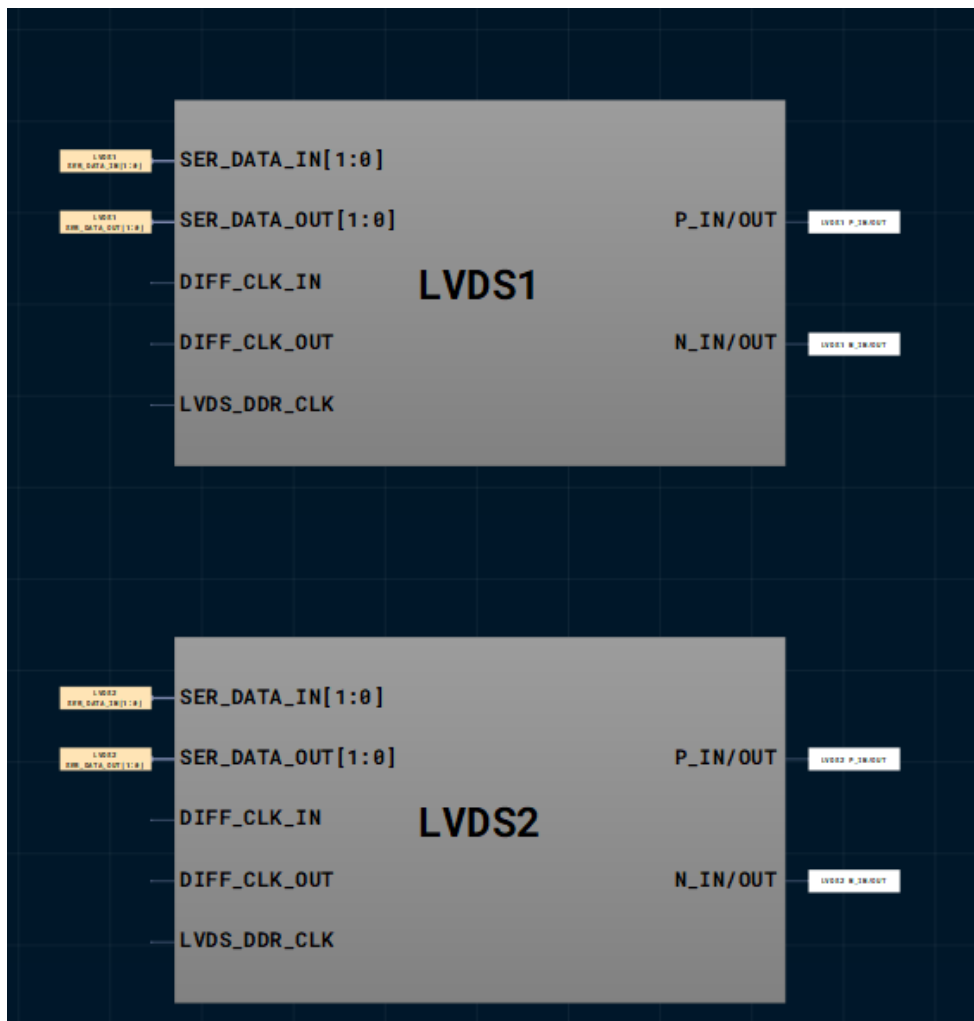

Figure 4. Floorplan for Setup A and Setup B
Figure 4 shows how LVDS Channel 1 and LVDS Channel 2 is being used in the Floorplan Tab of the software. The view can be zoomed in/out using the controls at the bottom or by pressing CTRL + Scroll on the mouse.
8. Now click on the Floorplan tab and see the CLB utilization (Figure 4). Press the Ctrl + scroll the mouse wheel to zoom-in. Confirm that the IOs selected in the IO Planner are shown in the Floorplan.